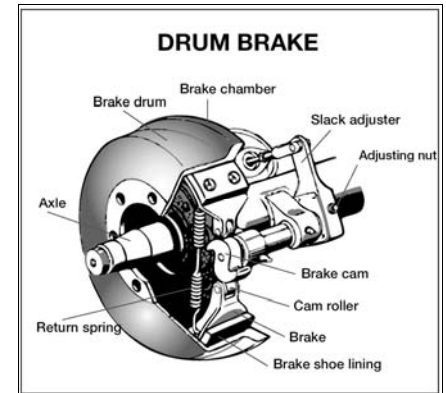

FIGURE 5.2
**S-cam Brakes.** When you push the brake pedal, air is let into each brake chamber. Air pressure pushes the rod out, moving the slack adjuster, thus twisting the brake camshaft. This turns the s-cam (so called because it is shaped like the letter "S"). The s-cam forces the brake shoes away from one another and presses them against the inside of the brake drum. When you release the brake pedal, the s-cam rotates back and a spring pulls the brake shoes away from the drum, letting the wheels roll freely again. See Figure 5.2.